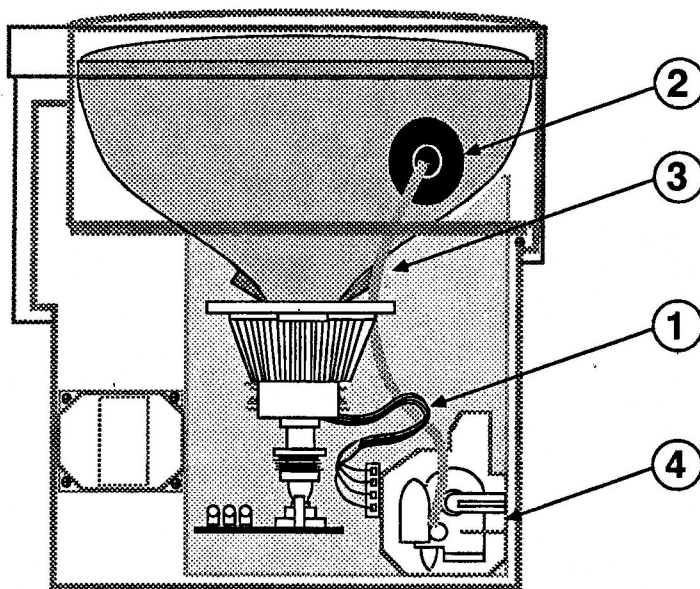

FIGURE 3
Normally the anode aperture (Figure 2, #1) has a connector plugged into it (Figure 3, #2). When a CRT is replaced, the anode connector is removed, exposing the anode. The anode can maintain a charge of several thousand volts (even after the power is off).
1. The yoke wires (Figure 3, #1)
2. The anode connector (Figure 3, #2)
3. The anode wire (Figure 3, #3)
4. The flyback transformer (Figure 3, #4)